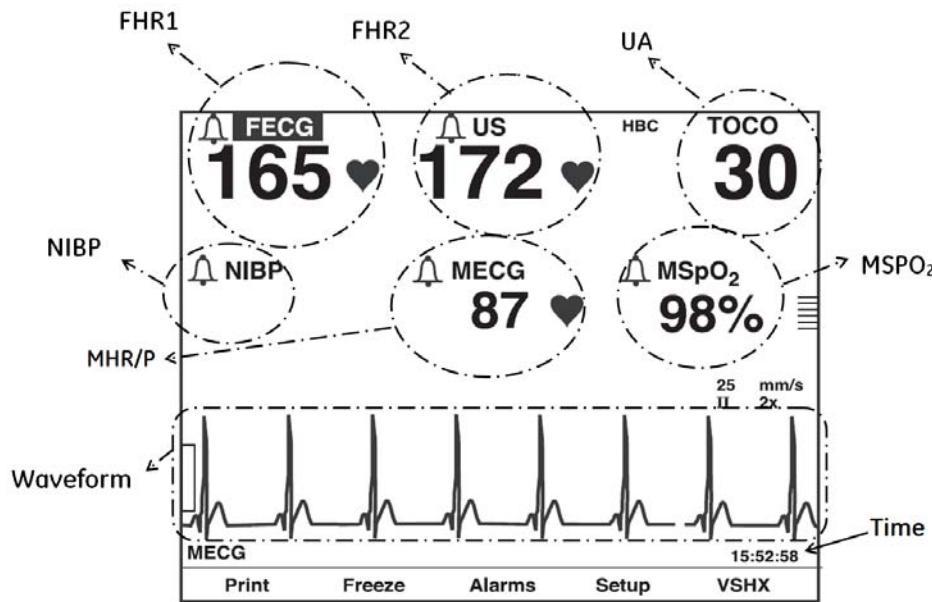

Figure 1-3 Display Information Example
Display Example: The graphic in Figure 1-3 gives the following information:
These parameters, shown on the upper portion of the screen (See Figure 1-3), include Fetal Heart Rate 1 (FHR1), Fetal Heart Rate 2 (FHR2), and Uterine Activity (UA). Each parameter can have several modes depending on the type of its input.
These parameters, shown on the middle portion of the screen (See Figure 1-3) are available in Maternal/Fetal monitor models only. The parameters include Maternal Blood Pressure, Maternal Heart/Pulse Rate, and Maternal SpO₂. Each parameter can have several modes depending on the type of its input.
The monitor display can show Fetal ECG Waveform, Maternal ECG Waveform, or Maternal SpO₂ Pulsatile Waveform on the bottom portion of the screen (See Figure 1-3). So the waveform can have several modes: FECG, MECG, MSpO₂, or Off.
The display also shows Current Time, [Label] Frozen Message and Time of Activation (See Figure 1-3).